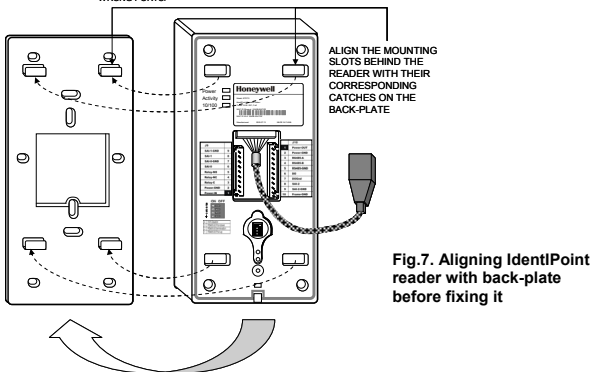
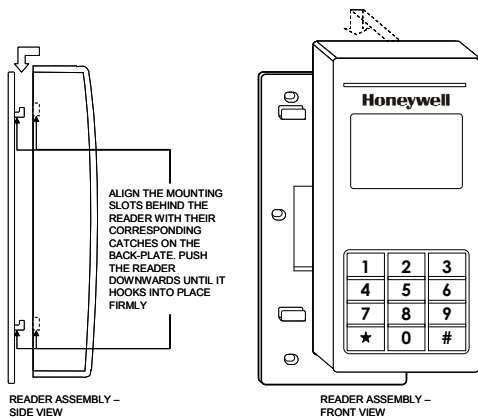

Fig.7. Aligning IdentiPoint reader with back-plate before fixing it
Fig.8. Fixing the IdentiPoint reader on the back-plate
5. Once all the connections and settings are done, hold the reader against the back-plate, aligning the mounting slots at the back of the reader with their corresponding catches on the back-plate and push it downwards until it hooks into place firmly. See **Fig.7** and **Fig.8**.
4. Once all the connections and settings are done, hold the reader against the back-plate, aligning the mounting slots at the back of the reader with their corresponding catches on the back-plate and push it downwards until it hooks into place firmly. See **Fig.7** and **Fig.8**.